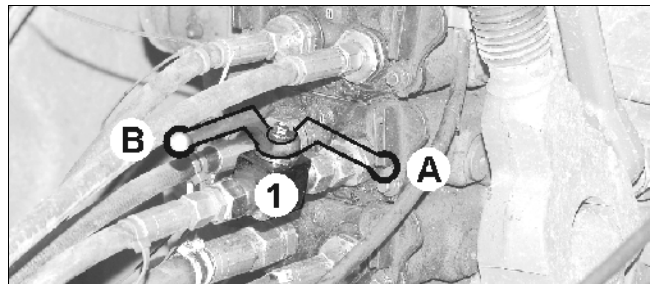

Fig. 14
- Closing the ball tap (Fig. 14/1) (position A).
- Open the ball tap (Fig. 14/1) (position B).